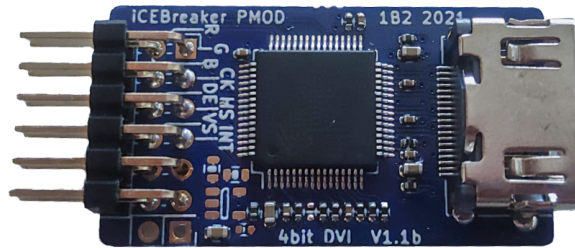

Figure 9 - PMod - DVI module
- A PMod to DVI module for displaying the image on a screen via HDMI, see figure Figure 9.